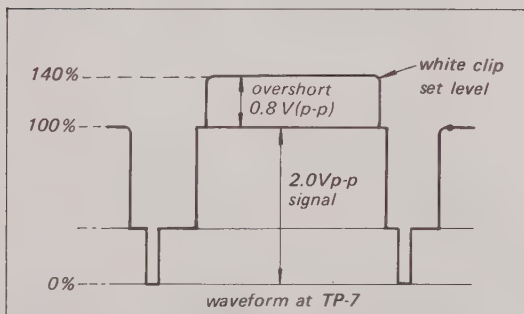

Fig. 8-24. White-clip adjustment
17. Set the scope gain controls so that the peak-white to sync signal occupies 2 divisions. See Fig. 8-24 (Ignore spikes.) Adjust R83 (white clip) so that signals 0.8 divisions above peak white are clipped.